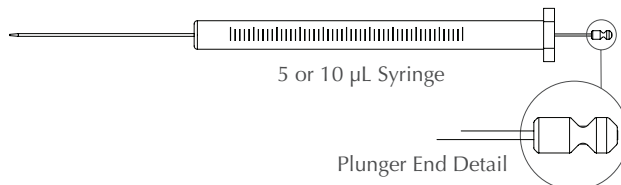

Figure 2
**Figure 2** shows the syringe compatibility requirements including plunger end detail, which is important for proper function. A 10  $\mu\text{L}$  syringe will give the nominal injected volume indicated for that **MicroShot Injector** and a 5  $\mu\text{L}$  syringe will give half that volume. Removable or fixed needles, 23 or 26 gauge needles can all be used with the **MicroShot Injector**.